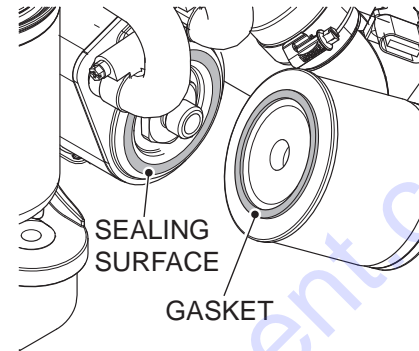

Figure 47. New Oil Filter Installation
6. Clean the sealing surface (Figure 47) on the engine where the oil filter mounts.